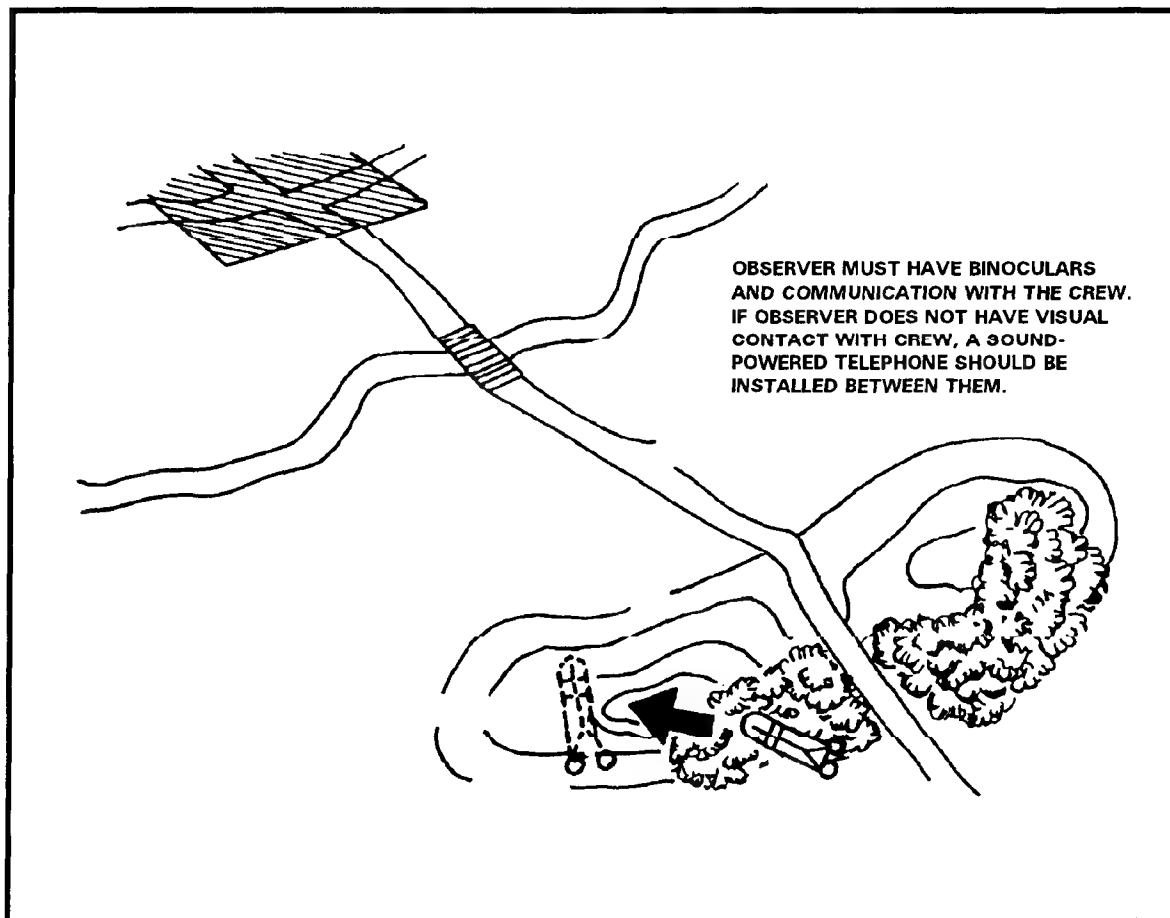

Figure D-3. TOW hide position.
(1) All vehicles travel to a position over the same route to prevent the enemy from detecting the number of vehicles present.
- (2) The route taken should follow existing paths, roads, fences, or natural lines in terrain.
- (3) Exposed routes should not end at a position.
- (4) If only a short portion of the route into a position is exposed, sweep out the tracks with tree branches.
- (5) Traffic in and out of a position should be held to essential movements only.
- (6) Upon moving into a position, be sure to erase the trail leading into the position.
- (7) Ensure all standard principles of camouflage are adhered to (same as for tripod-mounted position).
- b. If a hull-down position is not available, use a hide position (Figure D-3).